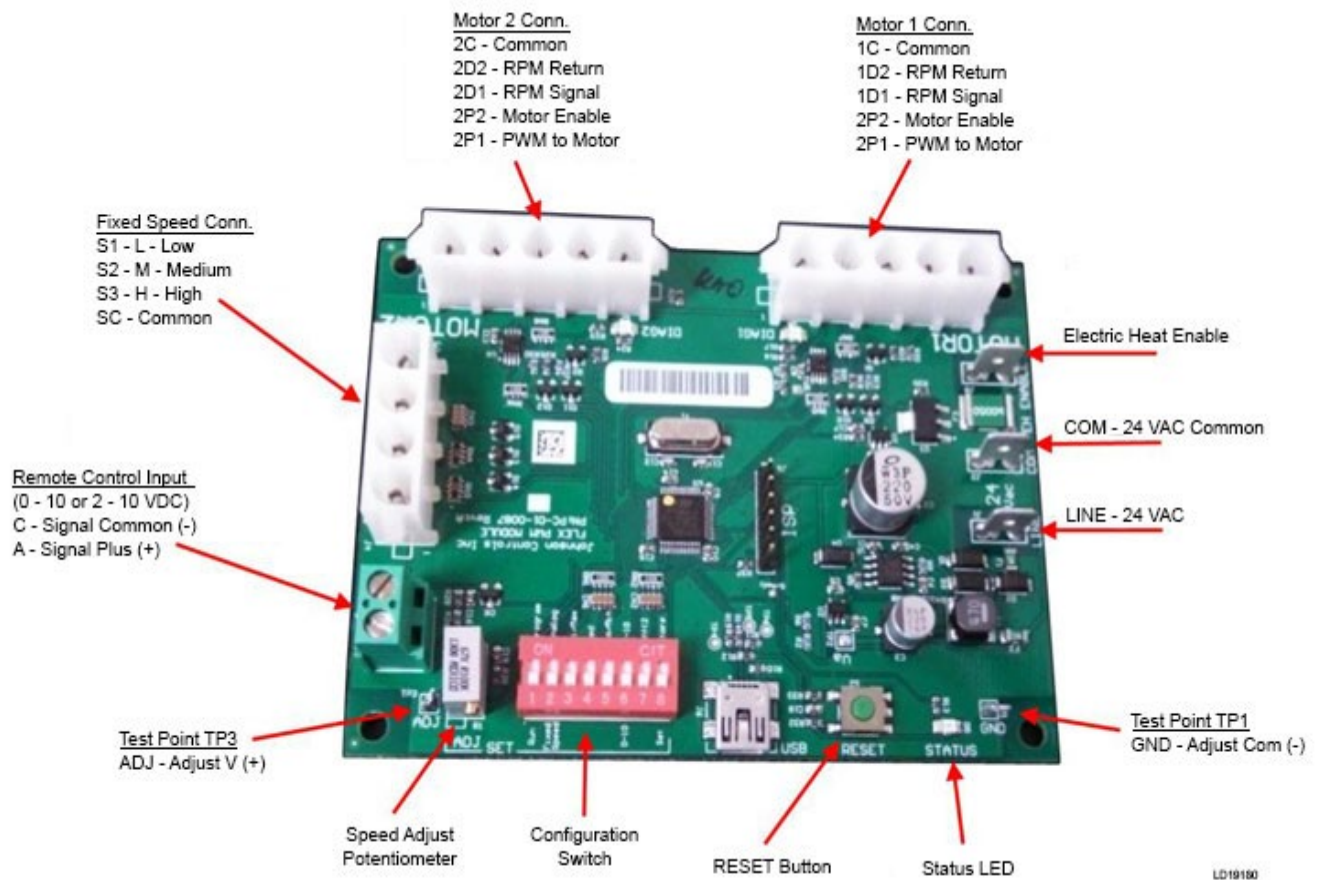

FIGURE 12 - G3 PWM BOARD
The G3 PWM Status LED (refer to *Figure 12 on page 25*) indicates the status of the G3 PWM board. See *Table 1 on page 25*.
Refer to *Figure 12 on page 25* for location of Configuration Switch, speed Adjust Potentiometer, and Reset Button. These will be used to program the EC operating mode and motor speed settings.
1. **Connections:** Connect or verify connection of remote analog signal and common wires to 2-10 VDC Remote Control Input terminals (refer to *Figure 12 on page 25*).